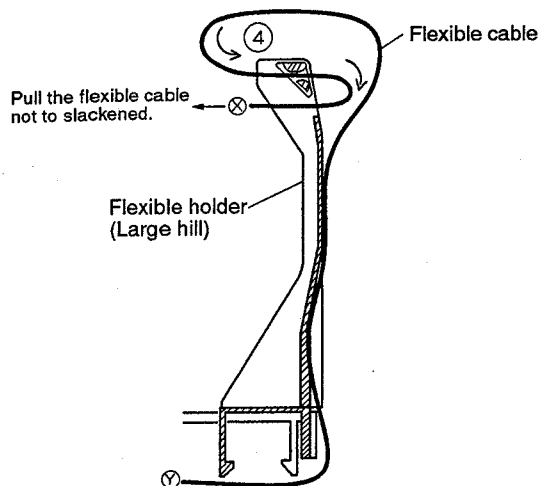

Fig. 18 Sectional plan of the Flexible holder
4. Pull the Flexible cable not to slackened after passing the (X) edge side of Flexible cable through the Flexible holder as shown in Fig. 18.